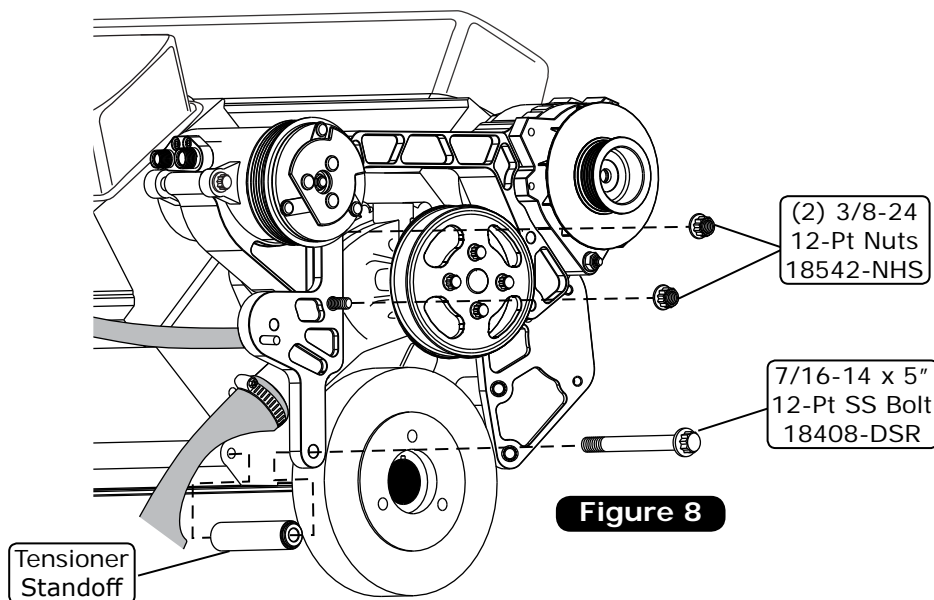

Figure 8
1. Install the belt tensioner bracket onto the passenger side mounting studs (See Figure 8, below).
2. Place a tensioner standoff between the engine block and the belt tensioner bracket as shown in Figure 8, below. Secure the bottom of the belt tensioner bracket using a 7/16-14 x 5" 12-Pt SS bolt. Torque to 35 lb ft. Secure the top of the belt tensioner bracket to the water pump mounting studs using (2) 3/8-24 12-Pt nuts. Torque to 30 lb ft. **NOTE: The tensioner standoff fits into the counter bore on the back side of the tensioner bracket.**